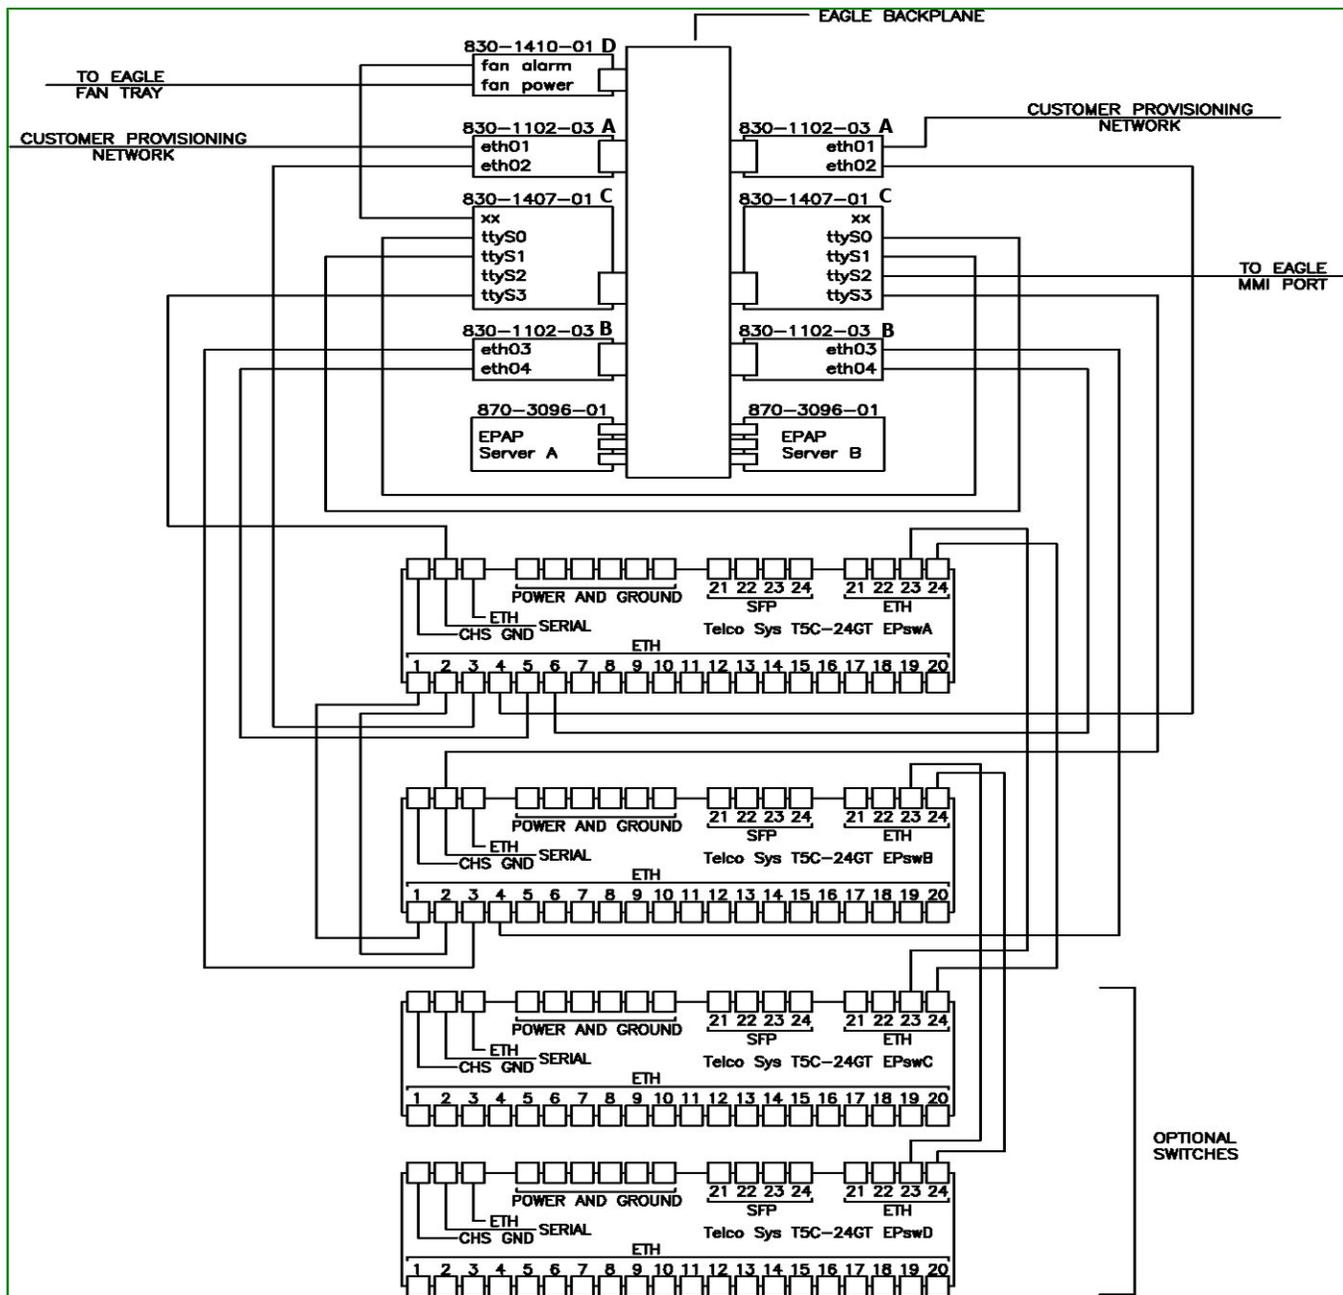
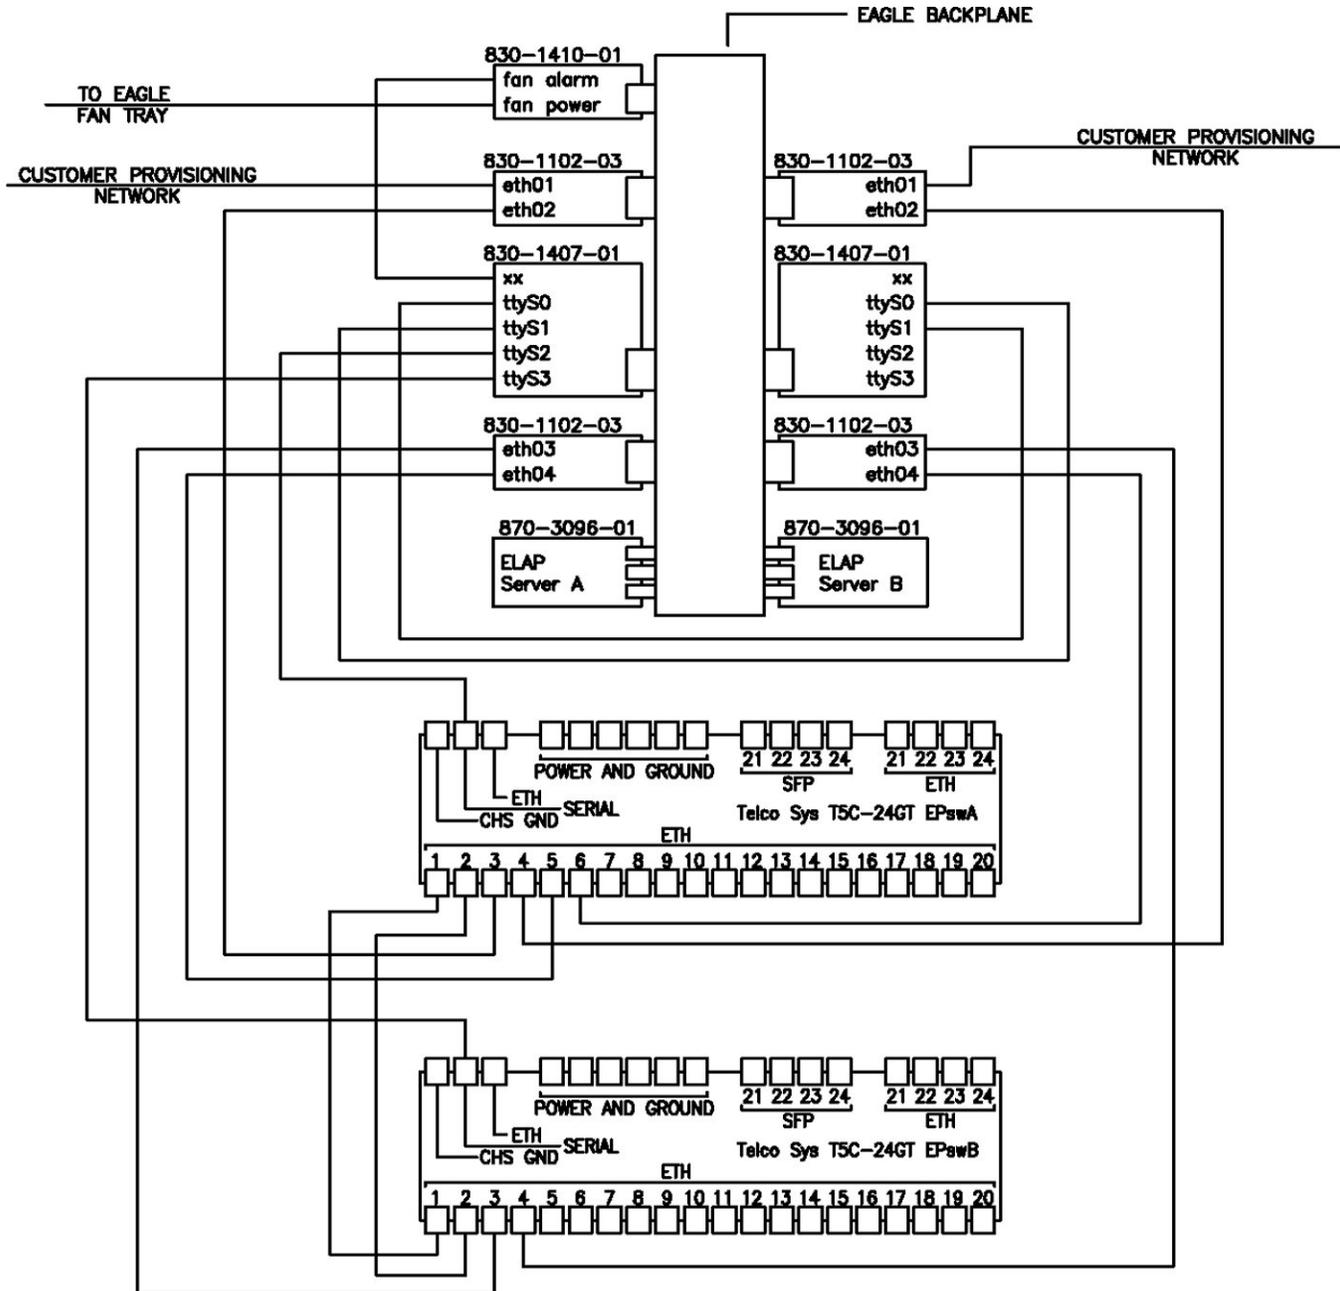

Figure 16: EPAP Network Connections
Figure 17: ELAP Network Connections
▶ ELAP and EPAP provide network connections to allow interaction with SMs, other MPS Servers, and the remote provisioning system. There are four network connections. Network Overview, Figure 16: EPAP Network Connections, Figure 17: ELAP Network Connections and Table 9: ELAP Interconnect Table illustrate the networks and how they are connected. ◀